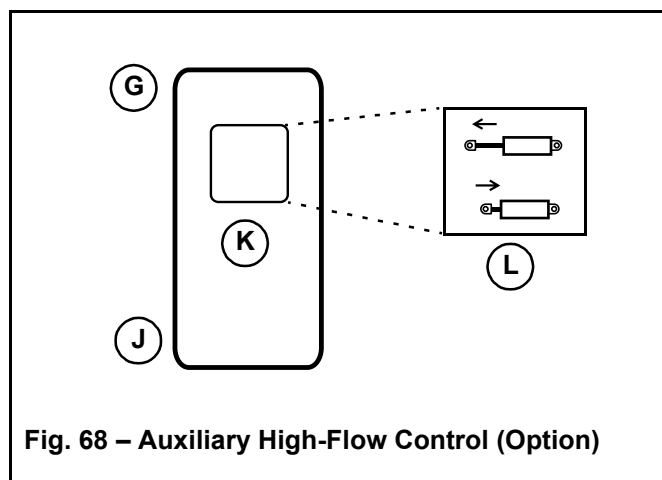

Fig. 68 – Auxiliary High-Flow Control (Option)
Press and release the top (G, Fig. 68) of the high-flow toggle switch (K) to activate high-flow auxiliary hydraulics flow in one direction.